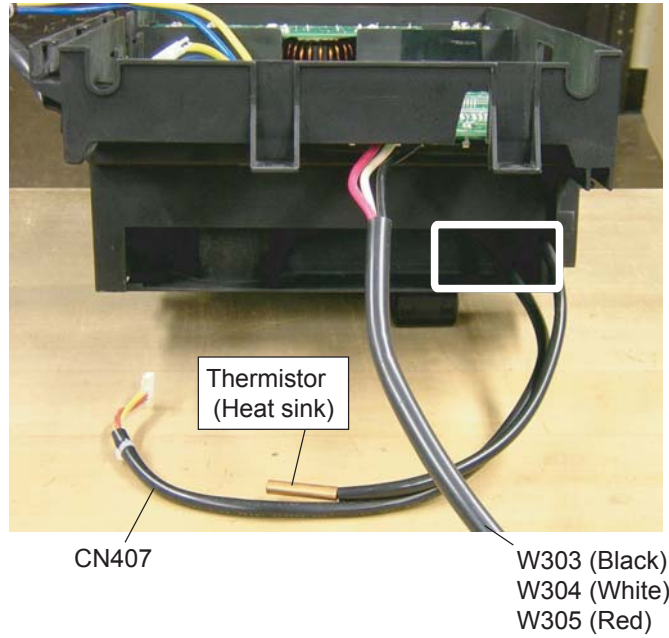

Fig. 4
- After it is temporary fix of MAIN PCB, As shown in the Fig 4 - 6, pull out the wires of MAIN PCB.
- As shown in Fig.4, pull out the wires.